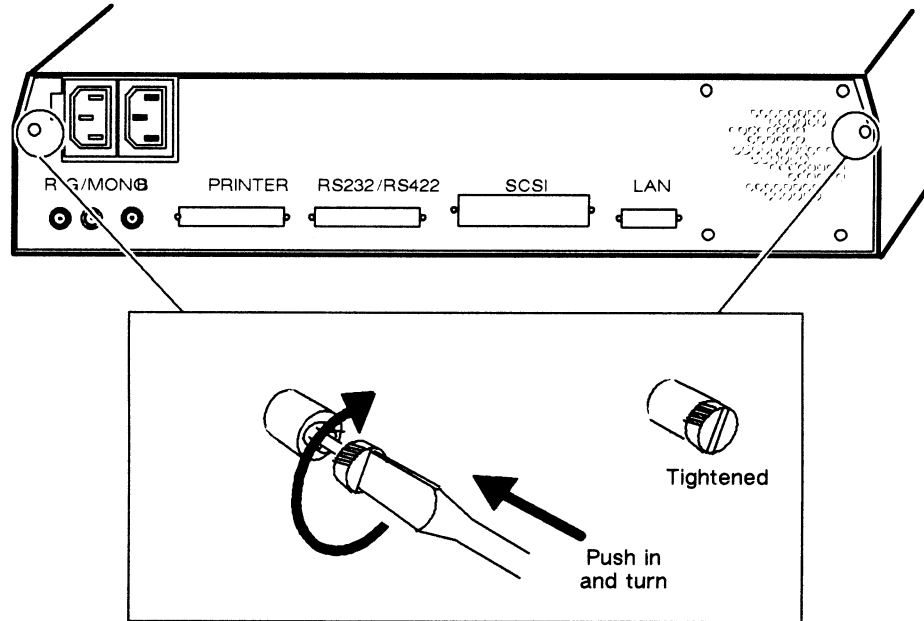

Figure 2-5 Tightening the Two Screws That Attach the Tray Assembly to the Housing
6. Tighten the two screws that attach the tray assembly to the housing as shown in Figure 2-5.